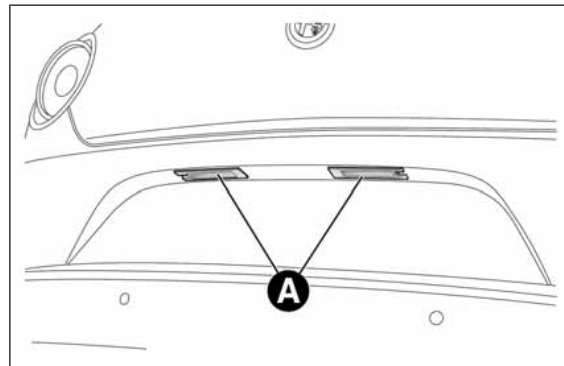

fig. 139
- remove the number plate light units fig. 139;